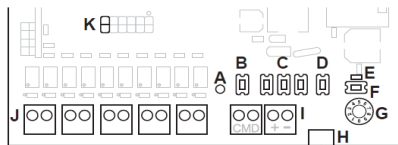

Fig.1
- 1.2. Select which type of switch will be connected (fig.1)